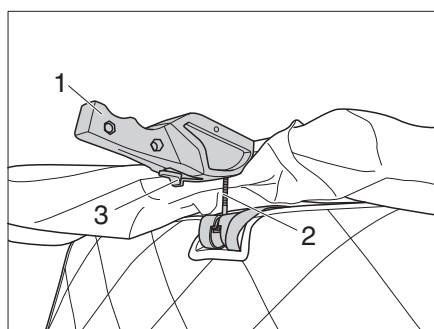

Fig. 13 Tensioning the locking mechanism
- ▷ Before starting your journey, check whether the locking levers of the latches (Fig. 13,1) on the left and right are correctly tensioned. If necessary, adjust the lock according to the instructions from the manufacturer.
- Slide the bolt (Fig. 13,2) into the locking receptacle.
- Push up the locks (Fig. 13,1) on the left and right.
- Check that there is no play in the locking bolt (Fig. 13,2).
- ▷ If the locking bolts (Fig. 13,2) move excessively and the pop-up roof cannot be properly shut, the latch must be adjusted as described in section 12.3.2.